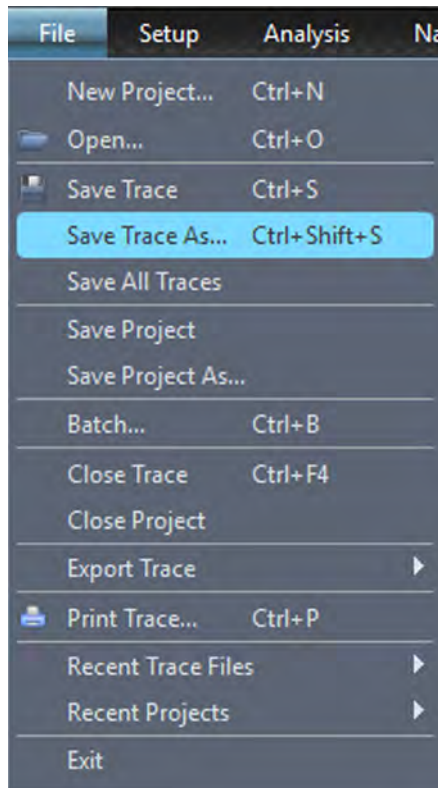

Figure 4.55: Save Trace As
1. Select **File** → **Save Trace As**. See Figure 4.55.